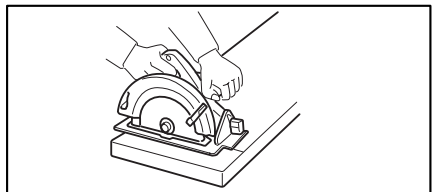
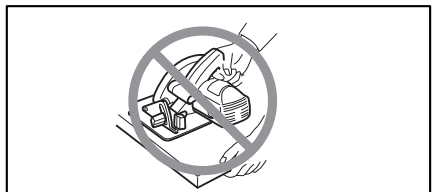

Fig. 5
Fig. 6
16. **Place the wider portion of the saw base on that part of the workpiece which is solidly supported, not on the section that will fall off when the cut is made.** As examples, Fig. 5 illustrates the RIGHT way to cut off the end of a board, and Fig. 6 the WRONG way. If the workpiece is short or small, clamp it down. **DO NOT TRY TO HOLD SHORT PIECES BY HAND!**